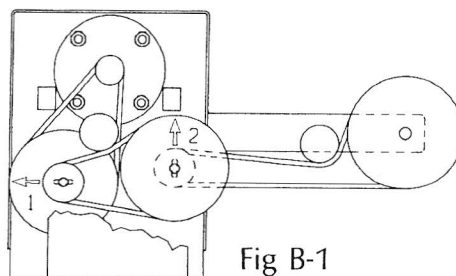

Fig B-1
3. Adjust the tension on the first belt (the one from the sanding drum to the first dual V pulley) by pushing the left dual V pulley to the left (see fig. B-1). The shouldered stub shaft will slide in the slots until the first belt is tight. While keeping the belt tensioned, retighten the bolts in that stub shaft.
4. Next adjust the tension on the second belt, which drives from the dual "V" pulley that was just adjusted. To do so push the right dual V pulley up, and retighten the bolts in that stub shaft (see fig. B-1).